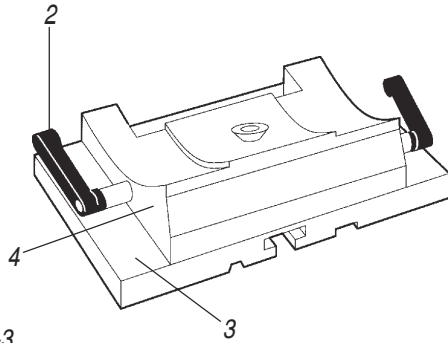

Fig. 4-3
Blade Holder Base Assembly (Fig. 4-3)
- Turn the clamping lever (2) clockwise to release the clamping mechanism.
- Turn the lever (2) counterclockwise to secure the clamping mechanism.
- To separate the two holder base assembly pieces for cleaning, unlock the lateral orientation lever (2) in Fig. 4-3. Pull the lever to the left to remove. The blade holder (lateral) base will lift off the sub-base portion. To reassemble, place the blade holder base together and completely reinsert the locking lever. Lock into position.